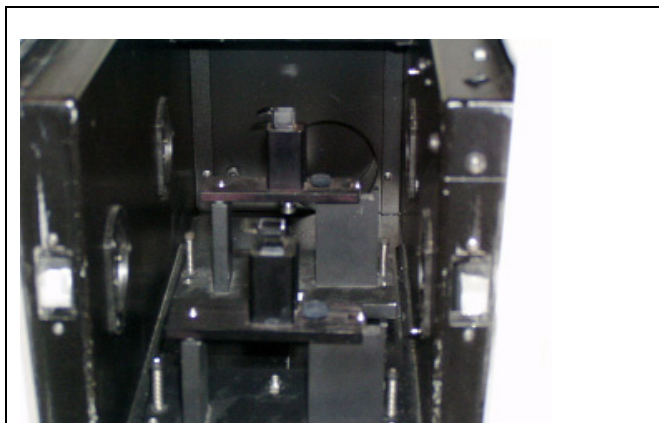

Figure 5
- 1) Install the cuvette holders (Fig. 5) in the sample chamber, observing the labels on the base plate: Install the holder labeled “back” on the reference beam path, and the one labeled “front” on the sample beam path.